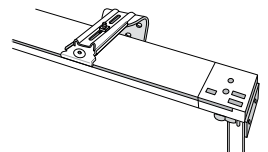

figure 3
2. With the brackets installed aligned and level to one another, place the front lip of the track into the front edge of the brackets. Lift the back of the track upward so that it rests against the bracket. If the track is resting on the cam lock, adjust the cam lock so that the track can rest against the bracket (figure 3).